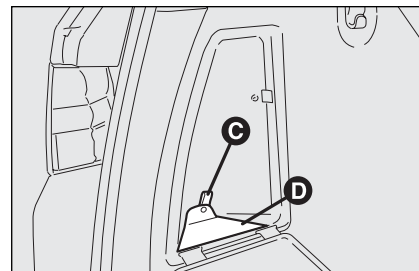

fig. 64
- hold the tab **C**-fig. 64 to open the second lid **D** and gain access to the fuse box.